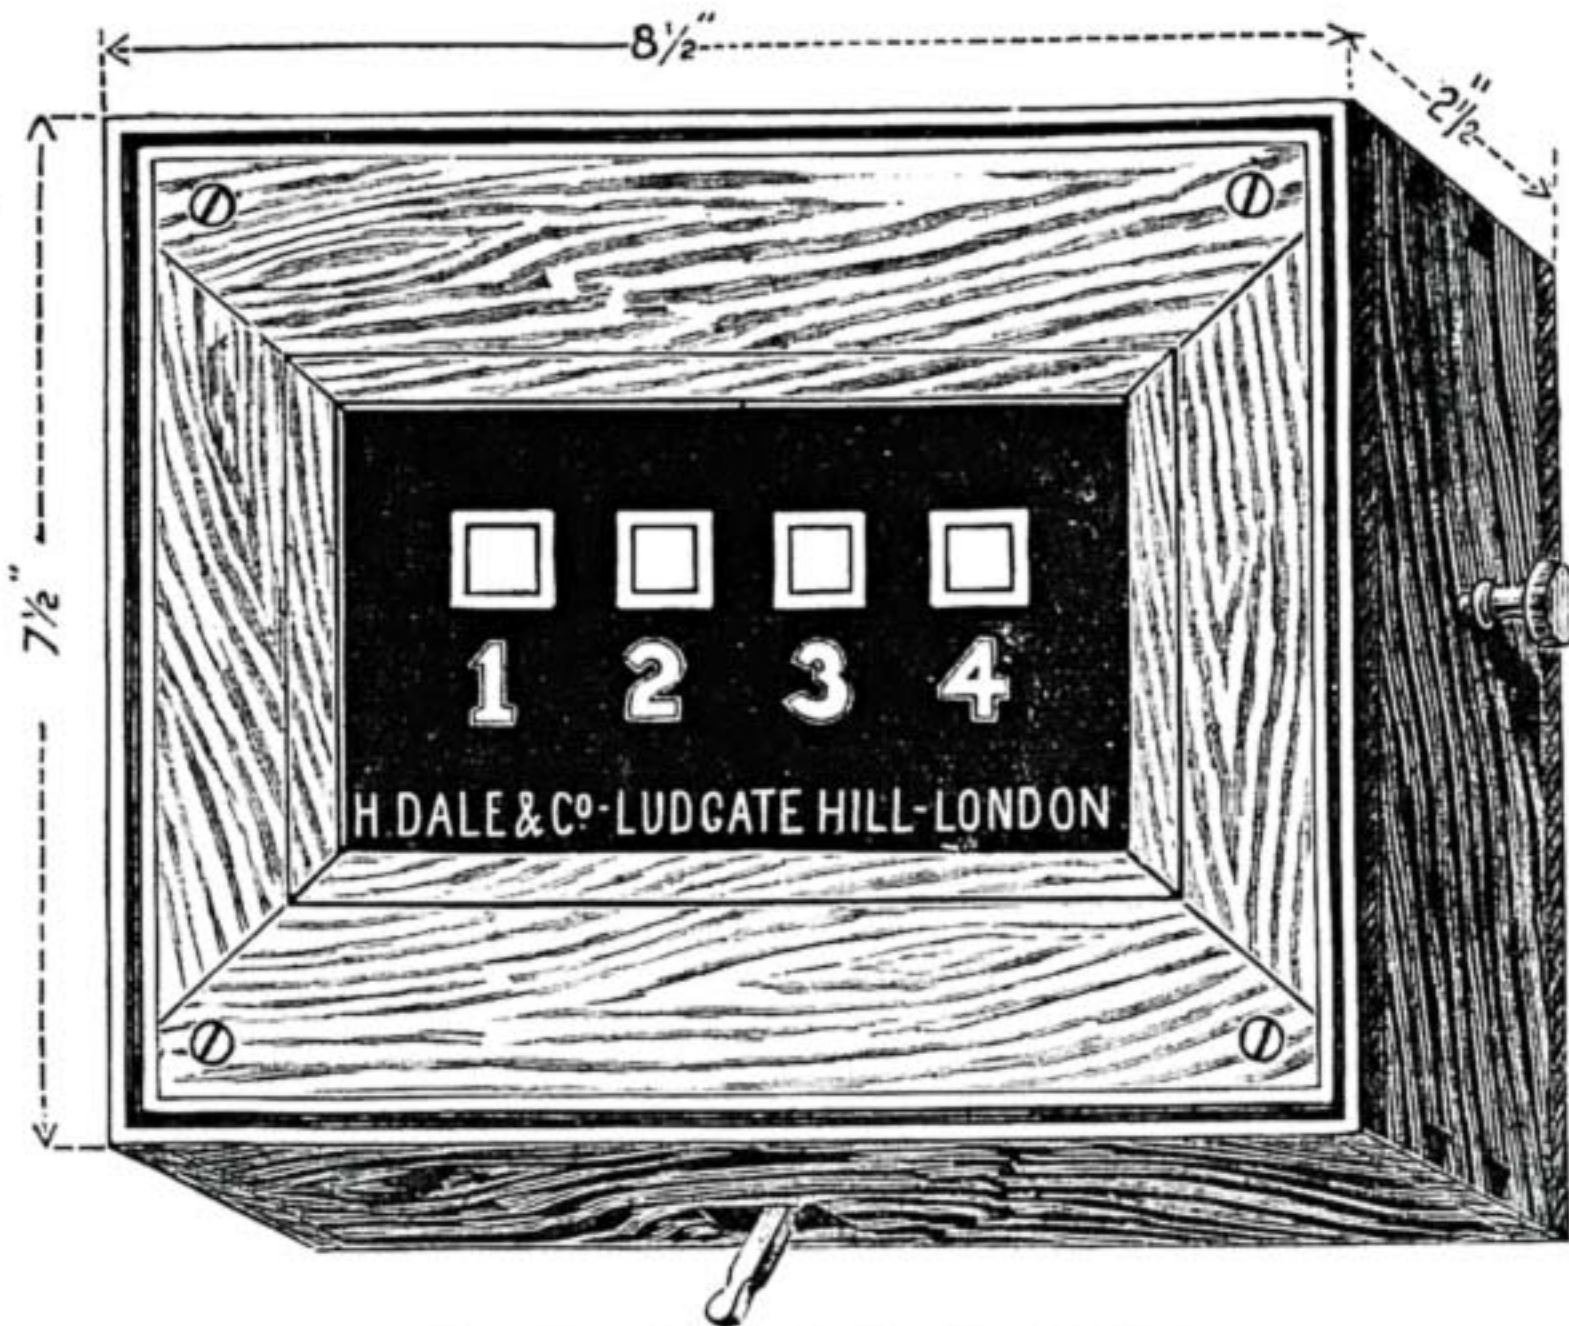
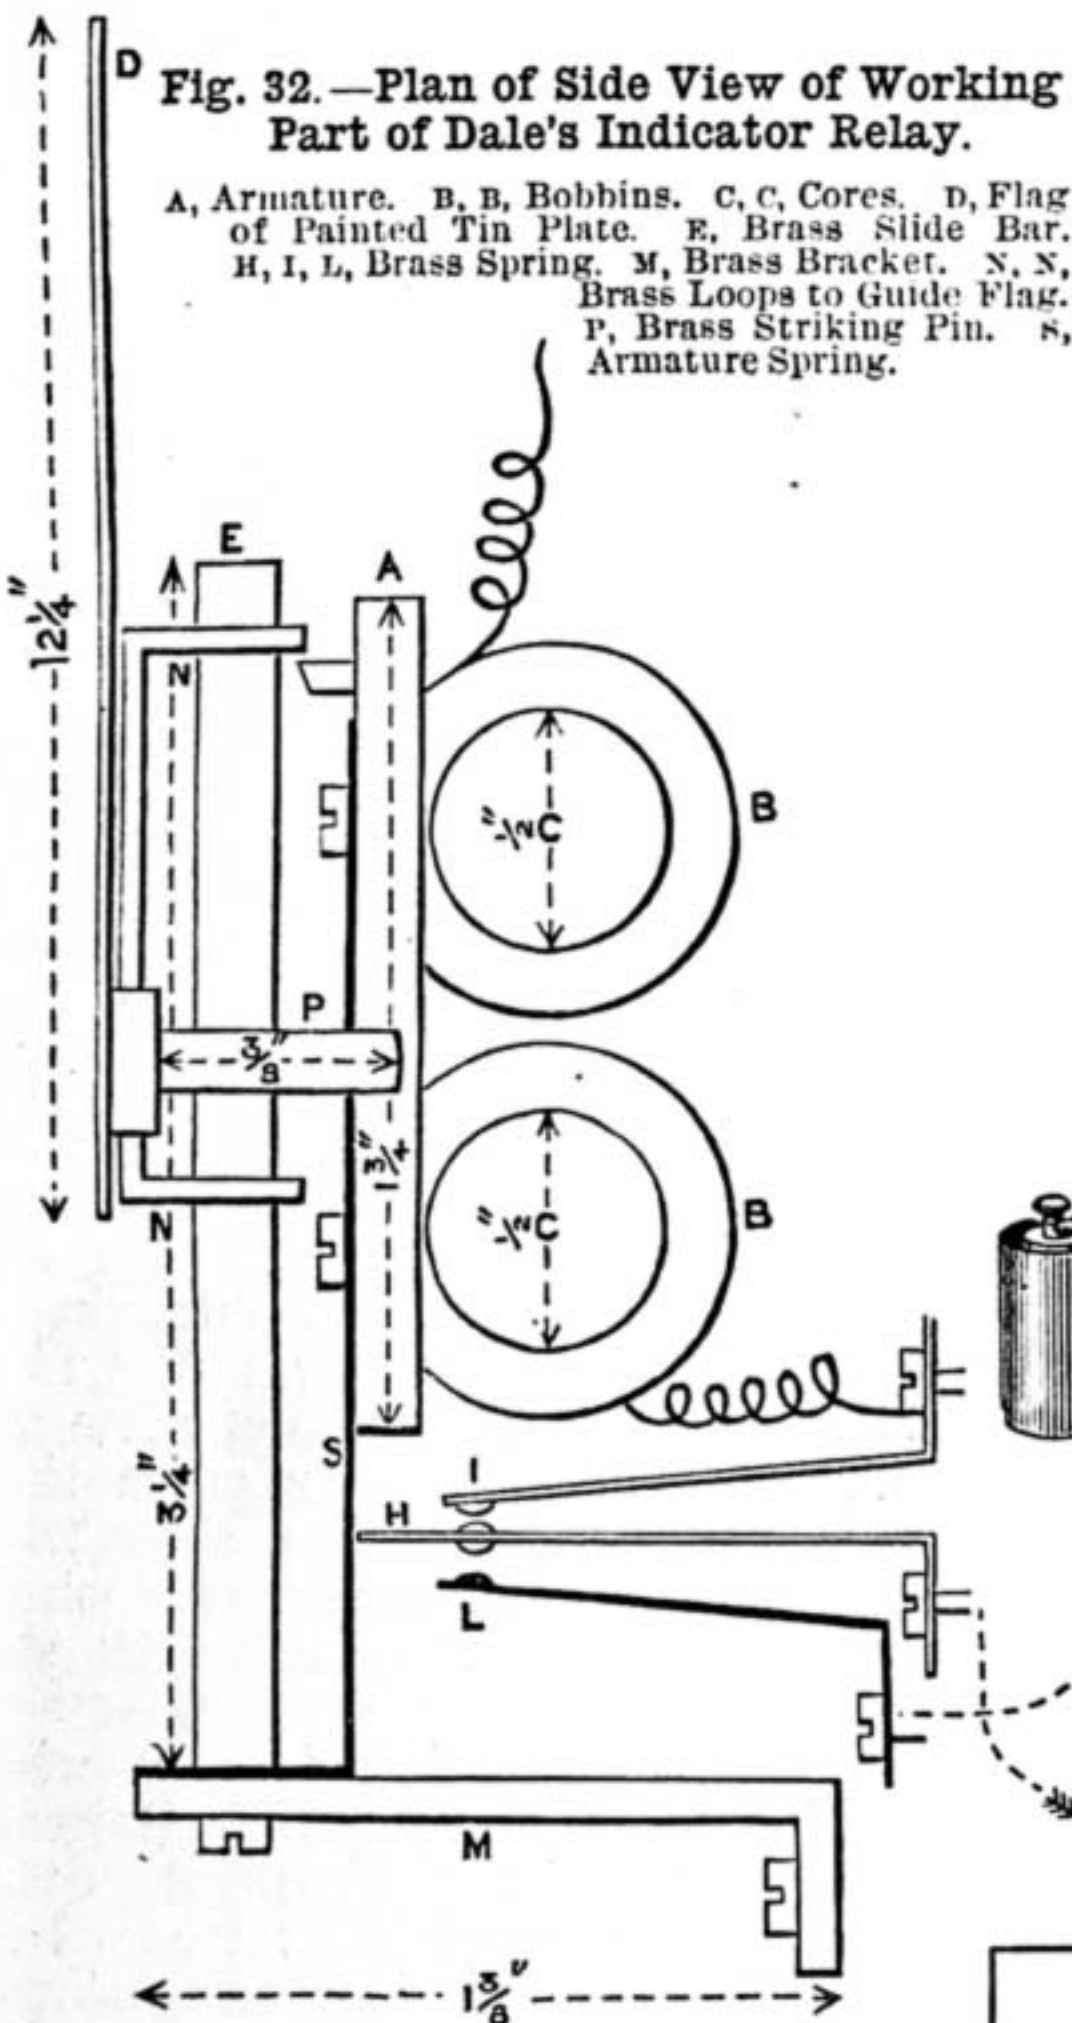
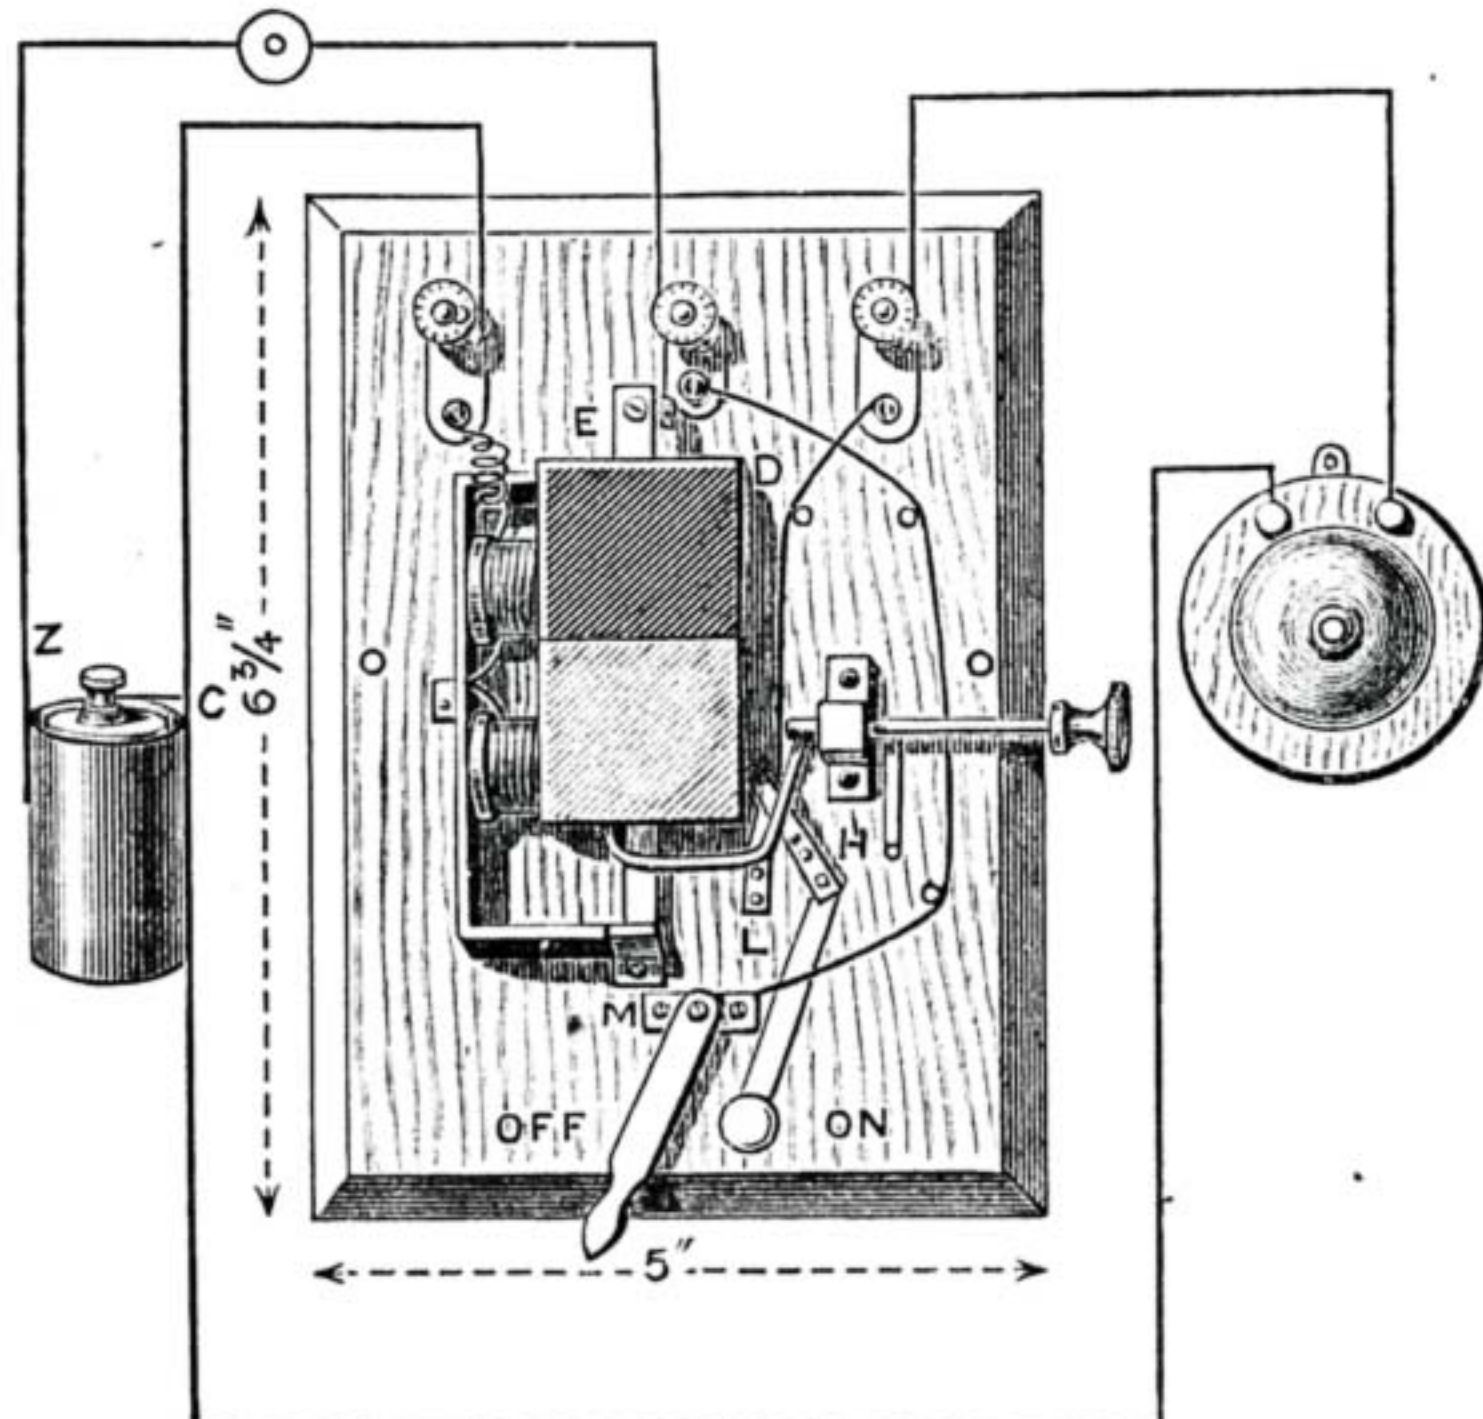

Fig. 31.—Dale's Indicator Relay.
Fig. 32.—Plan of Side View of Working Part of Dale's Indicator Relay.
Fig. 36.—Plan of Interior of Indicator Relay, showing how to connect it with Battery and Bell.
*Indicator Relay.*—When a house is furnished with a complete system of burglar alarums, with every room protected by suitable contact pieces to the windows and doors, the owner naturally wishes to know how he may locate the room into which the burglar has broken. Having been aroused in the dead of night by the ringing of the alarum, must he arm himself and search the house from top to bottom until he finds the thief, or the thief pounces upon him? He need not do so if an indicator relay or a set of these relays are placed in circuit with the various rooms. A neat polished case with glass front, containing a set of relay indicators, may be hung up on the wall near the alarum bell, and a glance at this will tell at once which room has been entered, or which door or window opened. Fig. 31 shows a small case of indicator relays, manufactured and sold by Messrs. H. Dale & Co., Ludgate Hill, E.C., and Fig. 36 is a plan of one of those relays mounted on a base by itself. In this form it is used as a single indicator, connected with a greenhouse or conservatory, either with a fire alarm or a burglar alarum. In the plan, Fig. 36, it is shown connected to one of Mayfield's circular bells, and worked with one cell of a Gassner battery. I may say in passing, that this well-made, excellently toned bell is quite an ornament to any room. The nickel-plated 4-in. gong is recessed into a disc of polished walnut, the edges of which are raised as a moulding around the gong. The gong serves the double purpose of a bell and a cover to the fittings beneath. I hope to describe its construction in a future paper when dealing with the broader subject of electric bells; the price of this is 9s. 6d. I have sketched this, together with Dale's
To show more clearly how this relay works, I have given an end view diagram of its working parts at Fig. 32, and this I will now explain. At the right-hand side of the plan, Fig. 36, will be seen a black knob connected to a brass rod. The end of this rod carries a curved brass lever, curved round so as to rest just under the lower edge of the indicator flag, D; a short transverse lever at H serves as a stop to prevent the curved lever from falling too low. When we wish to set the indicator relay, we give the black knob a sharp turn to the right; this brings the curved lever up smartly beneath the flag, and jerks it into the position shown at Fig. 32, with the white part of the flag covering the hole in the indicator case. In this position it is held by a pin projecting from the armature, A, engaging with the upper looped guide of the flag shown at X. When thus set, and contact is made in the main circuit by opening a door or window, the current from the battery traverses the magnet coils, B, B, magnetises the cores, C, C, of the magnet, and causes them to attract the armature, A. In doing this, the pin of the armature slips away from the guide, X, and leaves the flag without support, when it slips down the slide, E, to the bottom. As it does this, a stout, projecting pin, P, strikes the end of the thin brass spring, H, and forces it to break contact with the spring, I, above it, at the same time bringing it into contact with the brass spring, L, below it.
When this happens, the coils of the indicator magnets are out of circuit, and the current passes by an easier path to ring the bell, which it does with more vigour since relieved of the resistance of the magnet coils. As the flag falls, its upper or red part covers the hole in the face of the relay case, and shows at once the cause of the alarm. Any number of these indicator relays, up to fourteen, may be included in one case, and each number plainly marked as shown at Fig. 31, with a number corresponding with a number given to each guarded point, or the openings may have the names of the rooms printed beneath them. The bell may be stopped by taking off the switch shown at Fig. 36. In Fig. 31 this lever switch is shown projecting below the case. Any one of the indicator flags, or all of them at once, may be set by a sharp turn of the black knob at the right. The cover conceals all connecting screws, and is screwed